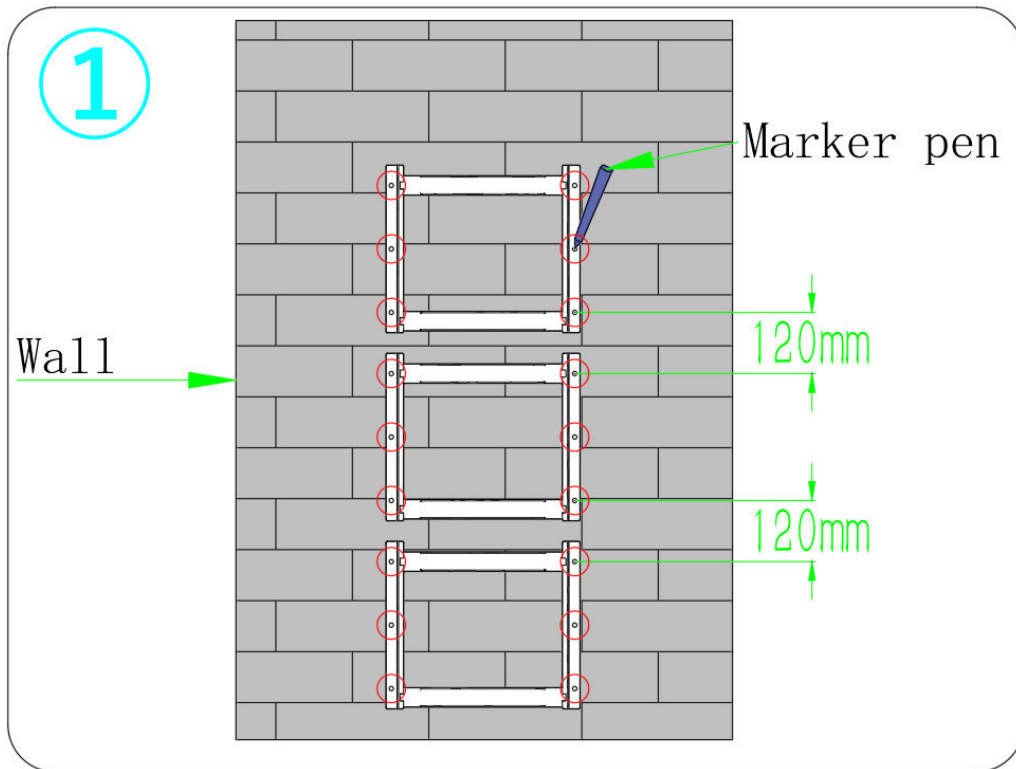

FIGURE 3.8: STEP1
- Step 1: Place the wall mount close to the wall. Make sure it is securely placed, mark the holes with a marker, and remove the wall hangings, as shown in Figure 3.8.